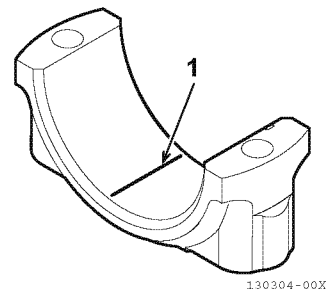

Figure 6-61
- Place a piece of PLASTIGAGE® (1, Figure 6-61) along the full width of the bearing insert.